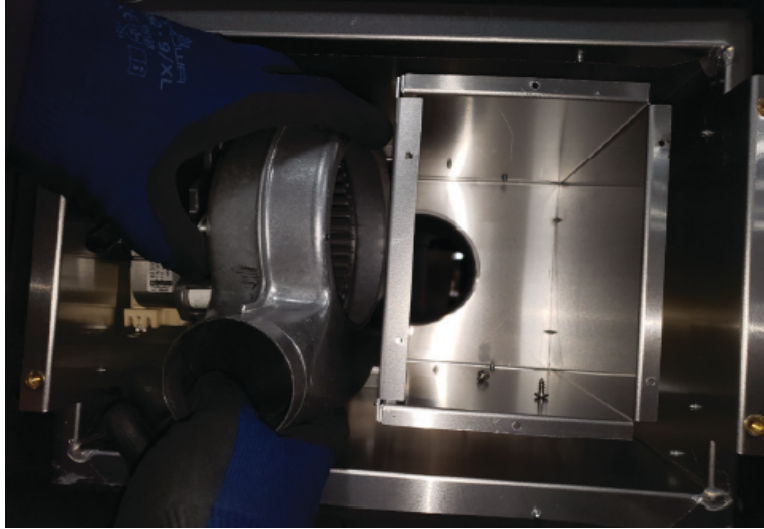

Figure 8.7 - Fan Assembly Removal
6. Remove fan assembly from housing. See Figure 8.7 on the next pages.